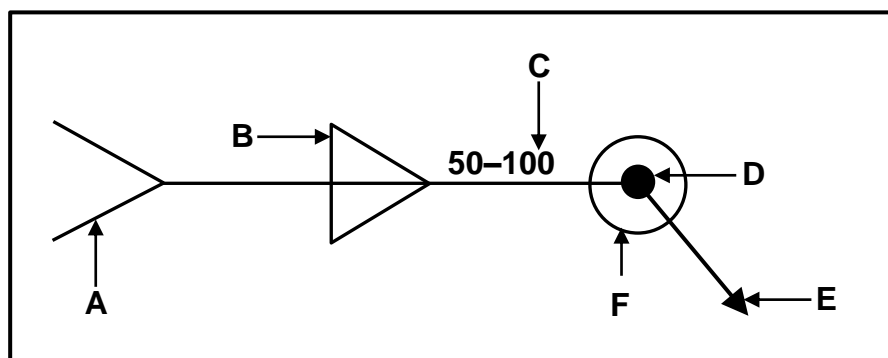

FIGURE 5.5
- 5.5 Identify elements A–F on the welding symbol shown in FIGURE 5.5. (1)